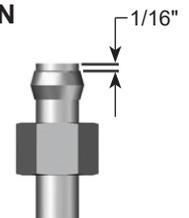

Figure 1
4. To set the temperature on the valve remove the protective green cap. The cap can be removed by inserting a small blade screwdriver into the slot at the base of the green cap and lightly push up (See Figure 1). Using an adjustable wrench or combination wrench, unscrew the locknut a couple of turns, then rotate the flats of the stem clockwise to lower the temperature or counter-clockwise to increase the set temperature (See Figure 4). Read temperature with a thermometer.
It is recommended that the end of the inlet supply tube, tee fitting or 90 degree elbow extend 1/16" beyond the ferrule for adequate compression as illustrated above in Figure 1.